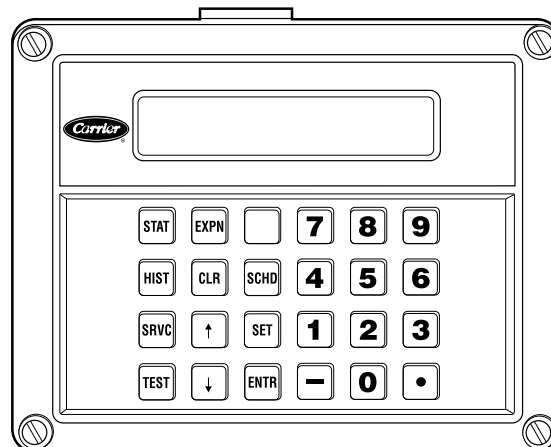

Fig. 9 — HSIO Display Module
4. Use the accessory HSIO keypad and display module (see Fig. 9) to perform the following:
Compressor System Pressure Check — Use the accessory HSIO keypad and display module (see Fig. 9) to perform the following: